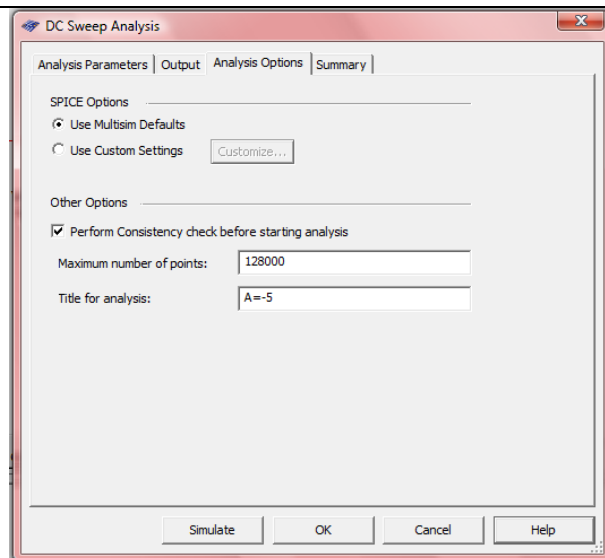

Figure 4.1.7 Titling the Analysis "A = -5".
6. Under the Analysis Options tab, set the Title for Analysis to be "A = -5" (as shown in Fig. 4.1.7).